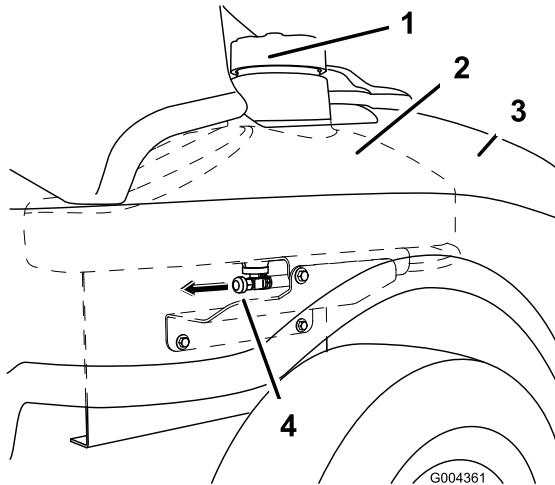

Figure 30
- Close the fuel shut-off valve located under the front of the fuel tank (Figure 30).